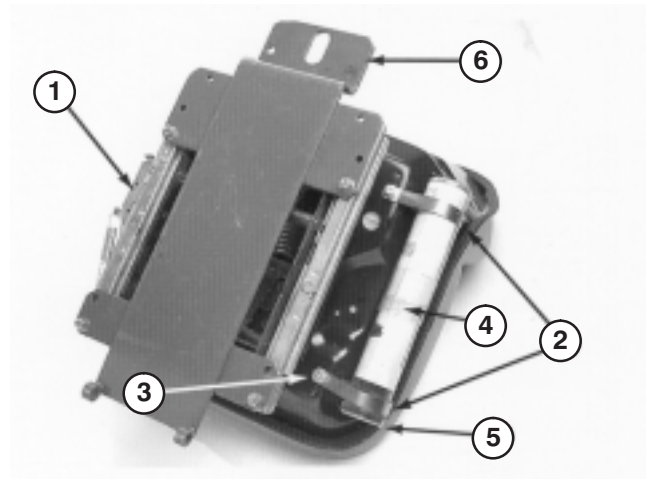

Figure 11
1. Mount seat suspension assembly to 4 capscrews on seat bottom and secure with 4 lock washers, flat washers, and nuts (Fig. 11).
2. Loosely secure 2 R-clamps to right side of seat bottom with 2 capscrews and flat washers supplied in kit (Fig. 11). Install manual tube into R-clamps and tighten capscrews (Fig. 11).
3. Mount seat support over four threaded studs at the bottom of seat suspension assembly and secure in place with flangenuts (Fig. 11).